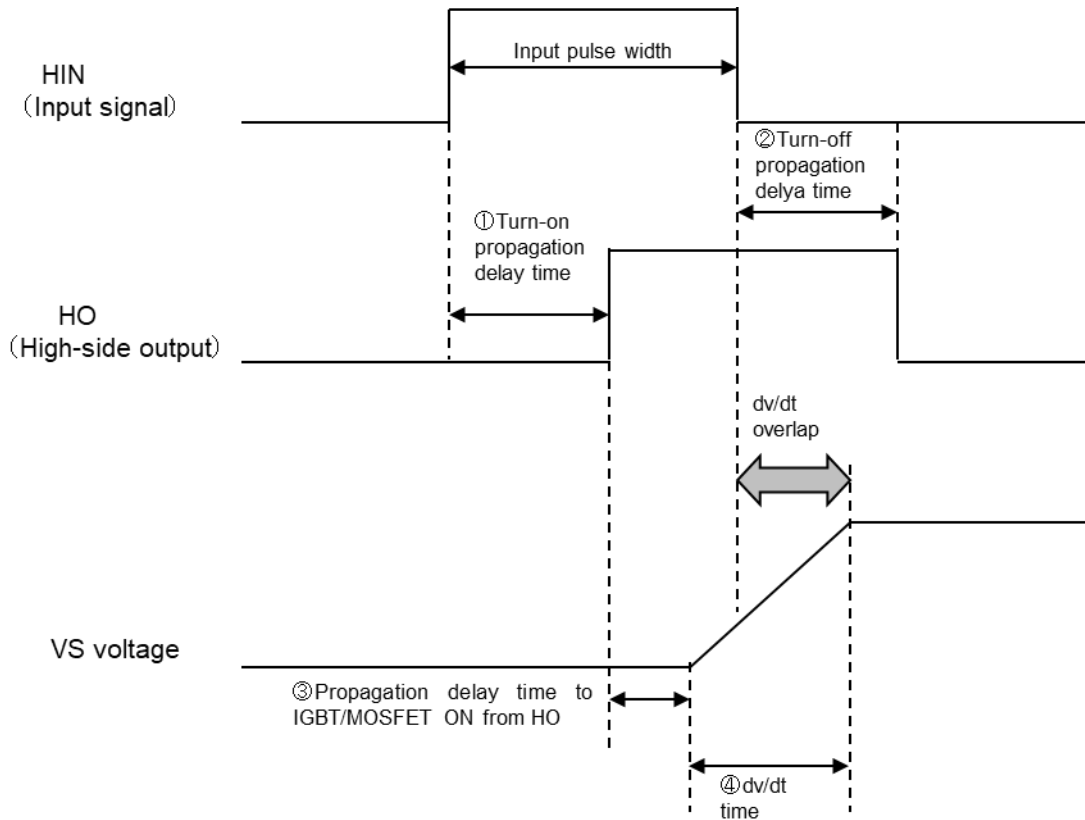

Fig.17 Malfunction timing chart due to narrow pulse input
In high-side circuit, if narrow pulse signal is input, the overlap may occur between turn-off propagation delay time(Fig.17②) and dv/dt of VS voltage(Fig.17④). At this time, OFF signal may not be transmitted due to a logic filter circuit which prevents malfunction by dv/dt. Please set long enough pulse input.